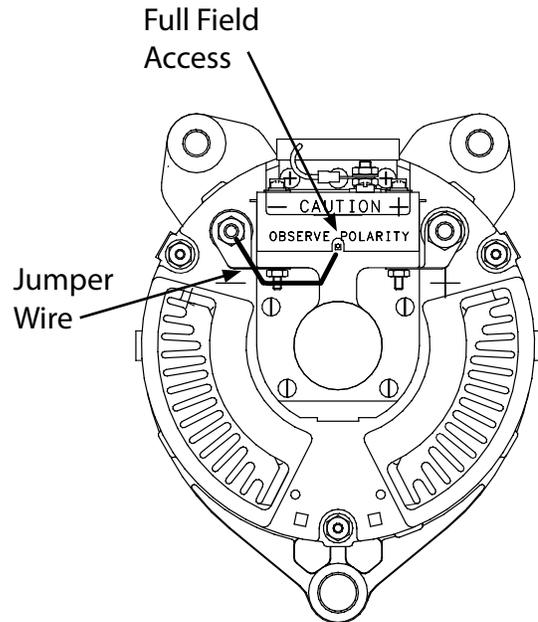

Figure 2
## 5000, 7000 alternator family (Figure 2)
2. With engine off, connect a short jumper to the alternator NEGATIVE output terminal and to a piece of stiff wire or 1/16" drill. Insert the drill in the "full field access hole" as far as it will go for 1-2 seconds. This will restore the residual magnetism in the rotor (Figure 2).